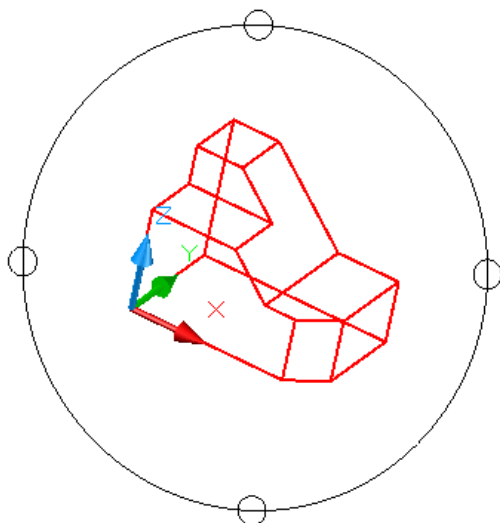

Figure Step 10
Step 10 Move the cursor onto the small circle on the left side. Press and hold down the left mouse button and while holding it down, move the cursor slowly to the right. until your model appears similar to the figure. You do not have to move it very far. (Figure Step 10)